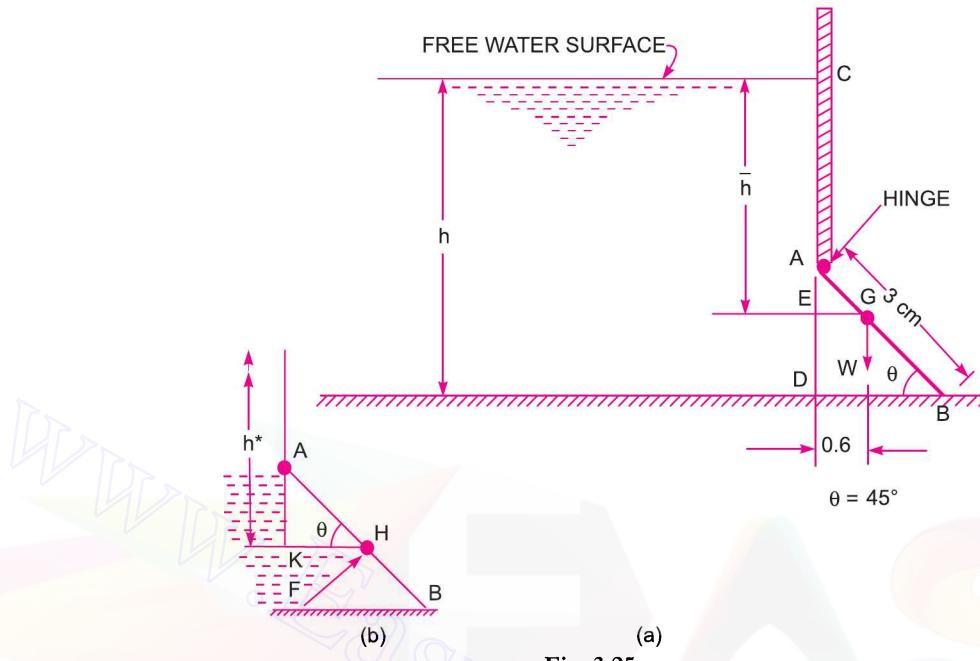

Fig. 3.25
**Problem 3.20** A rectangular sluice gate AB, 2 m wide and 3 m long is hinged at A as shown in Fig. 3.25. It is kept closed by a weight fixed to the gate. The total weight of the gate and weight fixed to the gate is 343350 N. Find the height of the water 'h' which will just cause the gate to open. The centre of gravity of the weight and gate is at G.
From Fig. 3.25 (a),
The total force  $F$  is acting at the centre of pressure as shown in Fig. 3.25 (b) at H. The depth of H from free surface is given by  $h^*$  which is equal to
$$\left[ \text{From } \Delta AKH, \text{ Fig. 3.25 (b)} \quad AK = AH \sin \theta = AH \sin 45^\circ \therefore AH = \frac{AK}{\sin 45^\circ} \right]$$